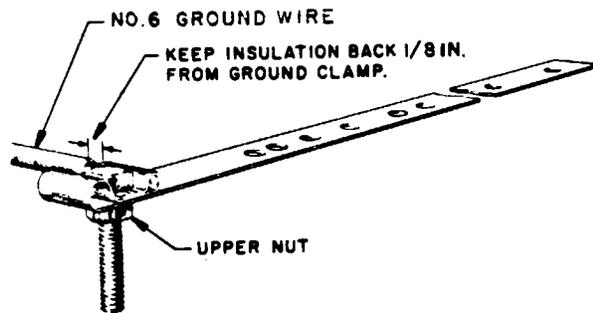

Figure 54—Attaching No. 6 Ground Wire to L Ground Clamp
- (1) Clean pipe thoroughly.
- (2) Remove approximately 1 inch of insulation from the ground wire, and clean conductor.
- (3) Remove the lower nut and the square washer from the bolt of the ground clamp.
- (4) Insert the ground wire conductor into the smaller loop of the ground clamp, and secure it by tightening the upper nut on the bolt and attach Form E-3013B (ground wire tag).
- (5) Bend the strap around the pipe, and engage the bolt with the farthest possible hole from the end of the strap (Figure 54).